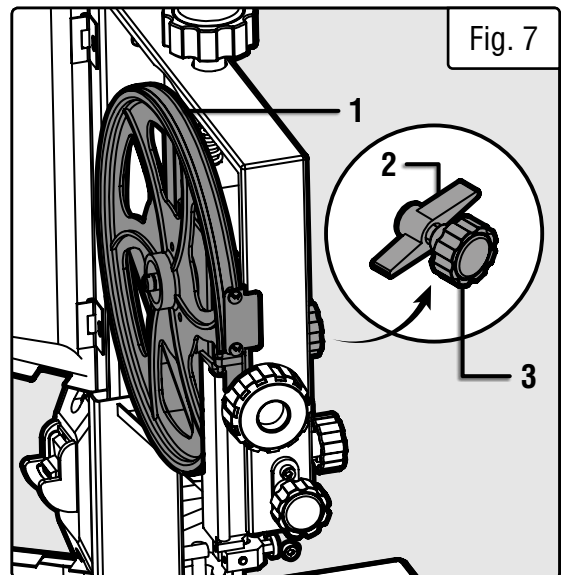

Fig. 7
2. Stand to the side of the saw in the position shown in Fig. 7. Carefully rotate the upper wheel (Fig. 7 - 1) manually for at least three rotations (making sure not to touch the blade) and watch the blade travel. If the blade is veering off to either side of the wheel, follow the next step to adjust blade tracking.
3. Loosen the blade tracking lock (Fig. 7 - 2). Continue to rotate the wheel and slowly turn the blade tracking knob (Fig. 7 - 3) in the desired direction until the blade is centered over the wheels. Turning the blade tracking knob towards you shifts the blade to the left, and turning it away from you shifts the blade to the right.